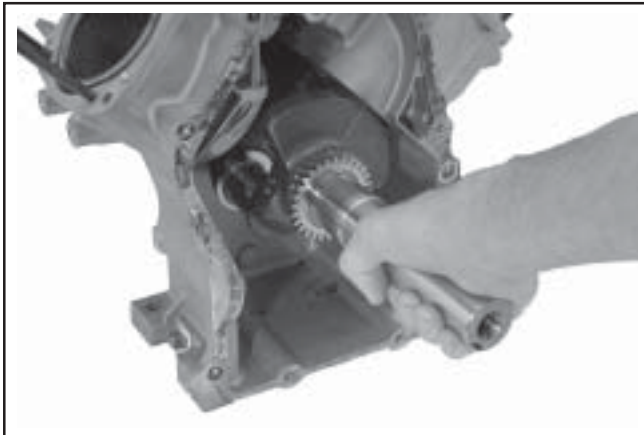

Figure 11-5. Installing Crankshaft.
2. Carefully slide the flywheel end of the crankshaft into the crankcase through the oil seal. See Figure 11-5.